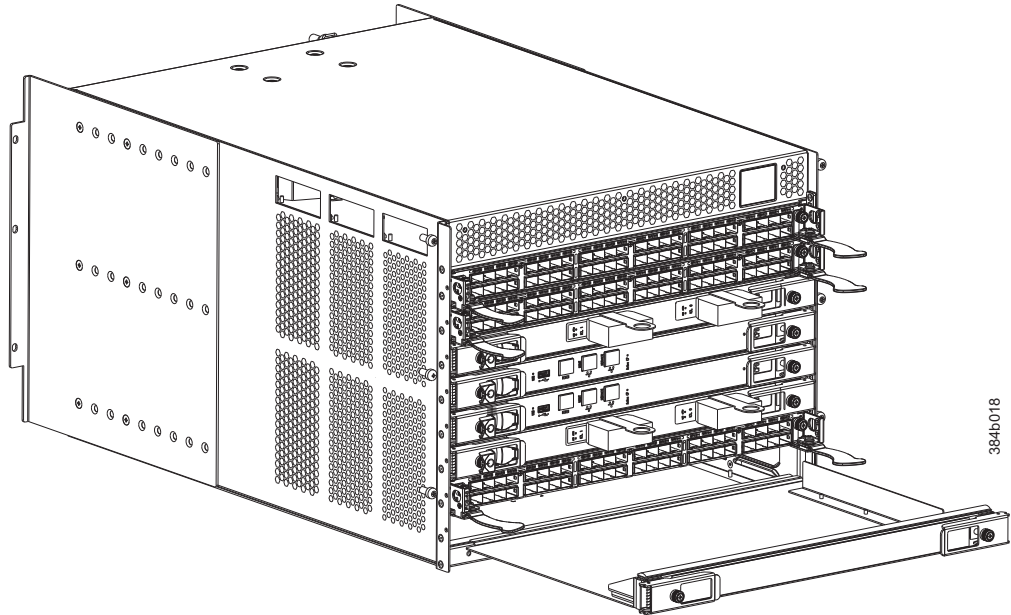

Figure 36. Filler panel removal and installation
3. Pull the filler panel out of the chassis, using the handles on the filler panel (Figure 36).
1. Orient the filler panel in front of the empty slot (see Figure 36).